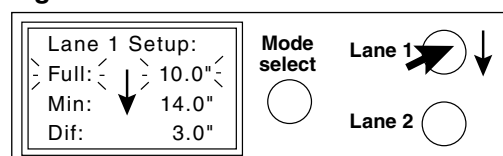

Fig. 5
3. Press MODE SELECT button to change ice level sensor set point (Fig. 5).